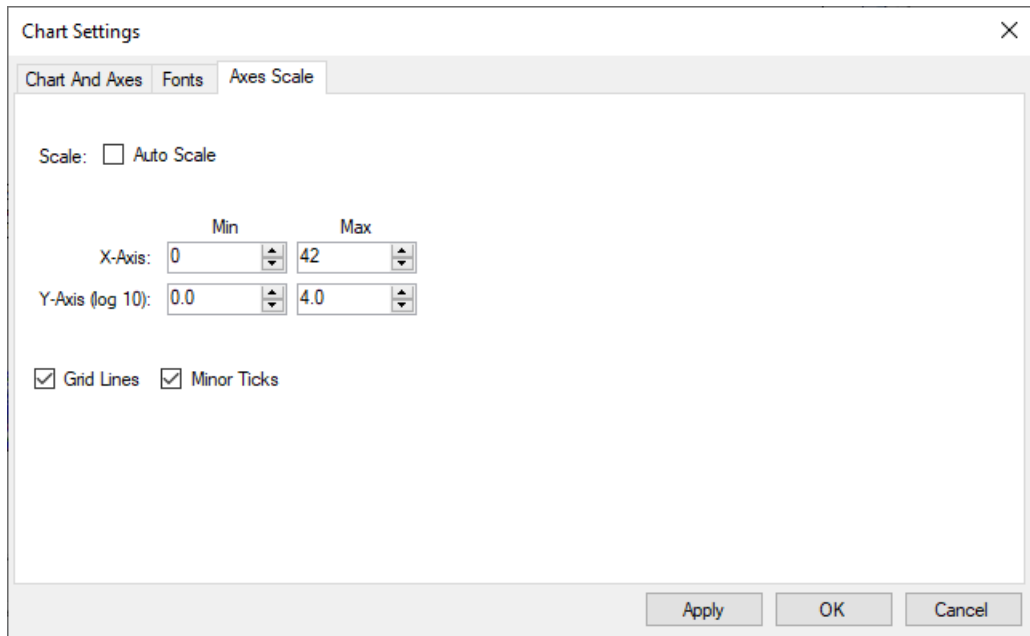

Figure 33 Maestro Chart Settings dialog box - Axes Scale tab
- d In the **Min** column for the **Y-Axis (log 10)**, type **0.0**, as shown in **Figure 33**.